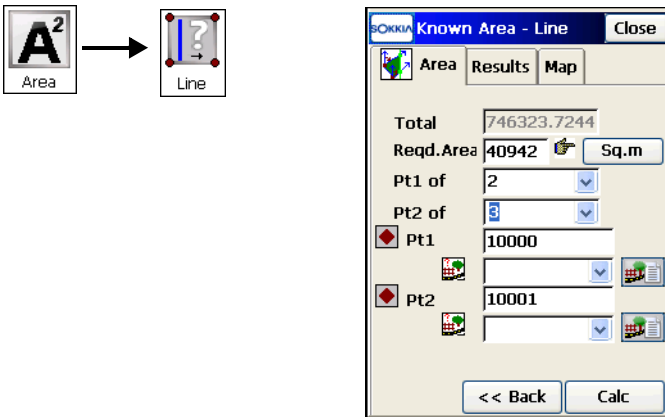

Figure 10-15. Known Area - Line – Area Tab
On the *Known Area – Line* screen (Figure 10-15), the Line method computes the coordinates of two points that satisfy the following conditions:
1. Select the initial data for the task: the start and the end points, the azimuths from the points, the reference azimuth and the known area value, and the names and codes of the resulting points (Figure 10-15).